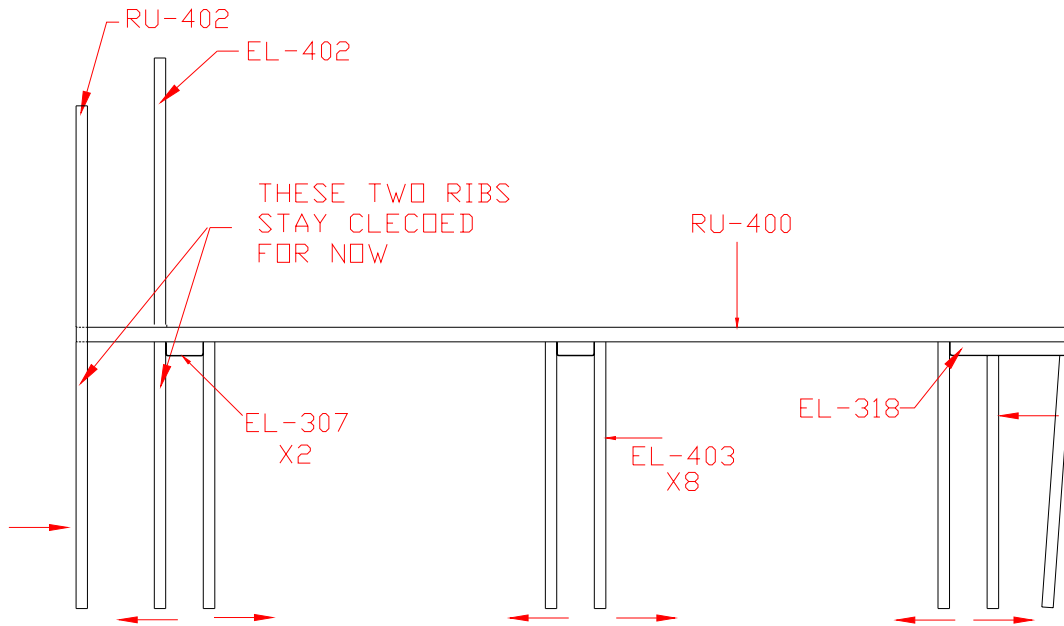

Figure 5.1.1
- 4) Cleco the Elevator/Rudder Ribs (EL-403) to the Spar assembly. Figure 5.1.1. **NOTE:** You will have to trim the flanges of the two ribs that go inside the Rudder Horn Doubler.